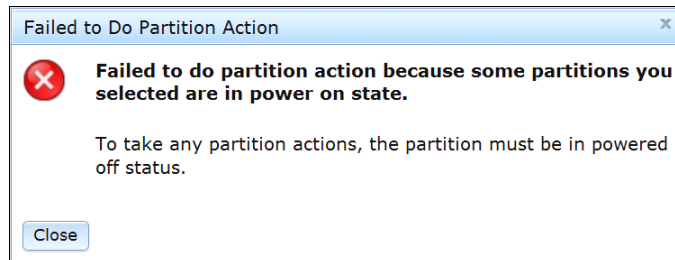

Figure 5-74 Partition failure message
- Before separating the x3950 X6 into two stand-alone servers, ensure that you turn off the server. Failing to turn off the server results in an error message, as shown in Figure 5-74.